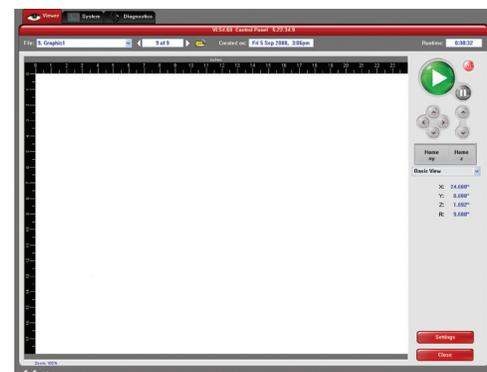

Figure 6
8. Click on the VersaLASER system icon on the taskbar and the current print job will appear in the Viewer Tab of the Universal Control Panel (Figure 6).
4. Click the green START button on the UCP to begin laser processing (Figure 6 on previous page).